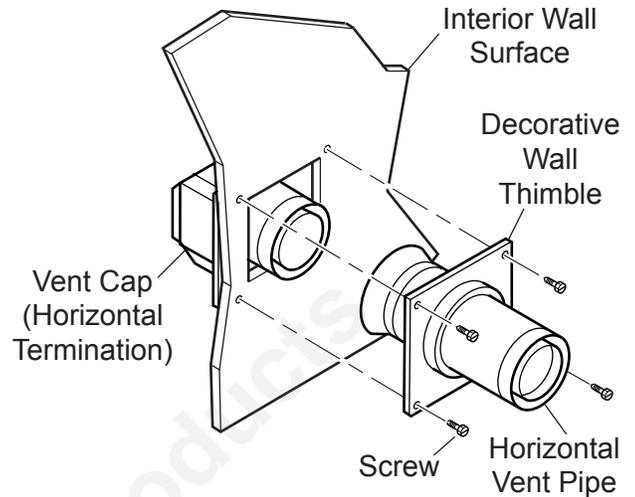

Figure 14 - Connecting Vent Cap with Horizontal Vent Pipe
5. Slide the wall thimble over the vent pipe before connecting the horizontal run to the vent cap. *See Figure 14.*
7. Slide the wall thimble against the interior wall surface and attach with screws. *See Figure 14.*